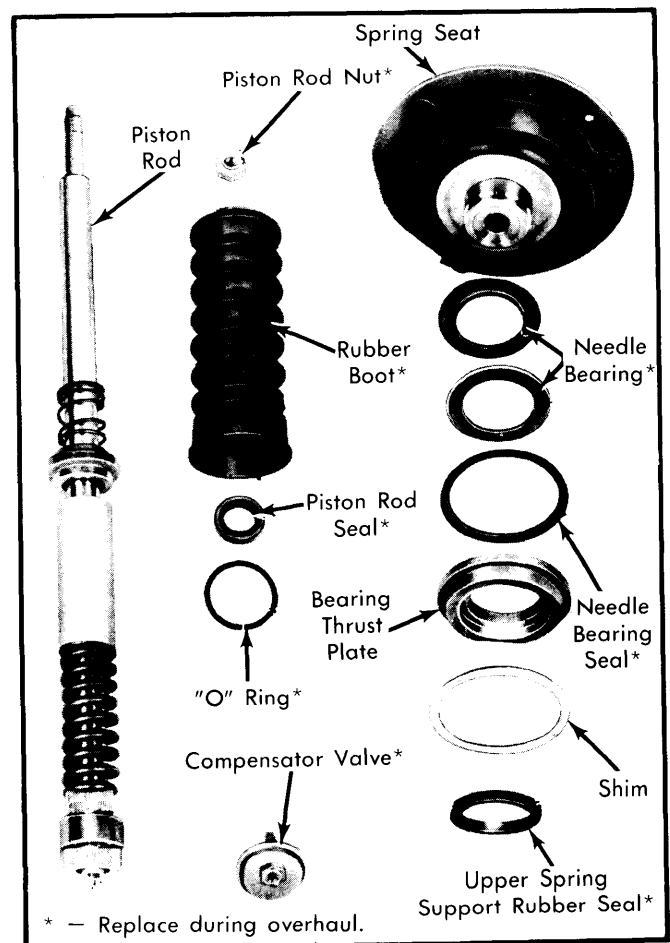

Fig. 2 Peugeot 504 and 604 Strut Assembly and Spring Seat Components
Cleaning & Inspection — Clean and inspect all parts for wear or damage; replace defective parts. All components indicated in *Figs. 2 and 3* must be replaced during overhaul.
2) Fit shock absorber tube to strut housing. Fill shock absorber with 10 oz. (504 and 604) or 11 oz. (505) of Esso Oleofluid 40X (or equivalent). Slowly insert piston rod assembly into shock absorber tube. Clearance between upper shock absorber housing and upper bushing must be .12" (3 mm).
4) Install rubber dust boot. Fully extend piston rod and place holding clamp between bottom of dust boot and shock absorber cap nut. Place housing horizontally in vise. Fit new seal to bearing thrust plate. Reassemble upper spring seat components as shown in Figs. 2 and 3.